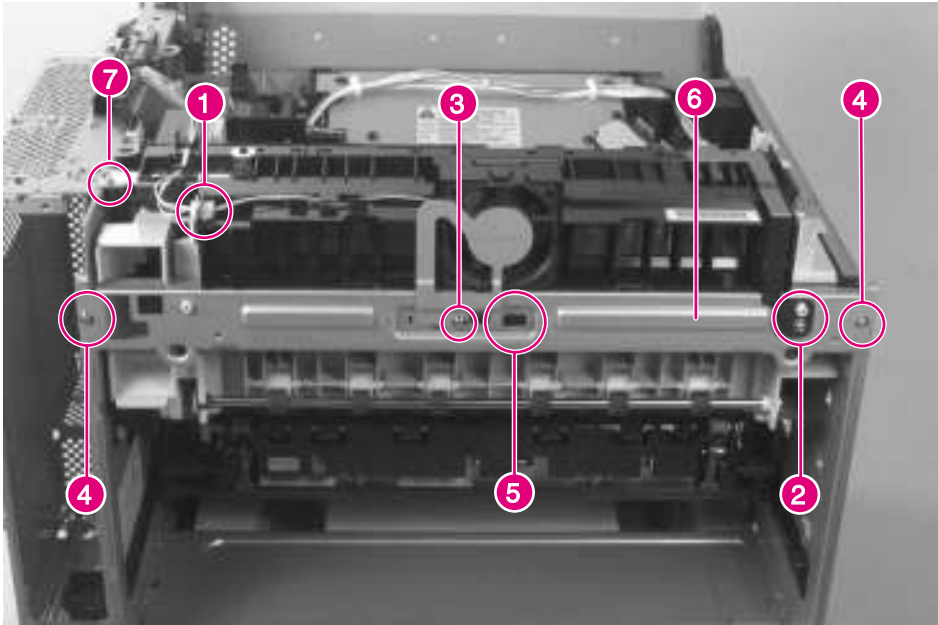
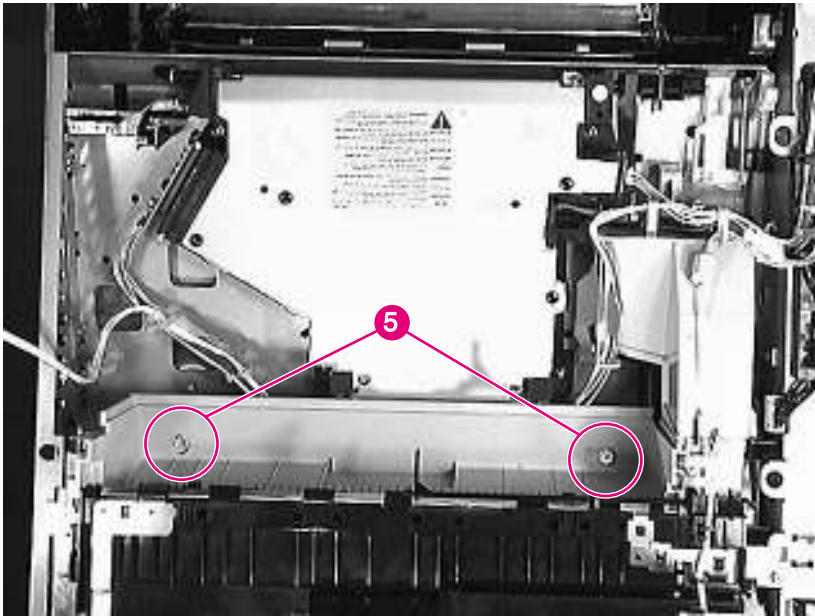

Figure 6-12 **Delivery Unit (1 of 2)**
Figure 6-13 **Delivery Unit (2 of 2)**
- 2 Unplug and re-route the fan cable out of the way (figure 6-12, callout 1).
- 3 Remove 1 screw (figure 6-12, callout 2) to loosen the grounding strip.
- 4 Remove 1 screw (figure 6-12, callout 3), and remove the metal fan shield.
- 5 Open the Diverter Assembly access door, remove 2 screws (figure 6-12, callout 4), release the plastic retaining tabs (figure 6-12, callout 5), and remove the metal mounting bracket (figure 6-12, callout 6).
- 6 Remove 2 screws (figure 6-13, callout 5) and 1 screw (figure 6-12, callout 7).
- 3 Replace the metal mounting bracket (figure 6-12, callout 6) before replacing the Delivery Unit screws. Make sure that the plastic clips (figure 6-12, callout 5) are snapped into place before tightening the mounting screws (figure 6-12, callout 4).